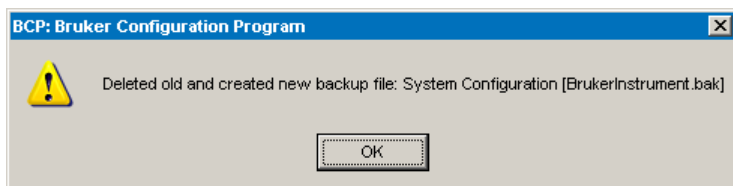

Figure 1.5 — Alert: BCP deleted old and created new backup file
6. Choose **File > Save**. BCP alerts you that it has updated the `brukerinstrument.bak` backup file (Figure 1.5). Click **OK**.